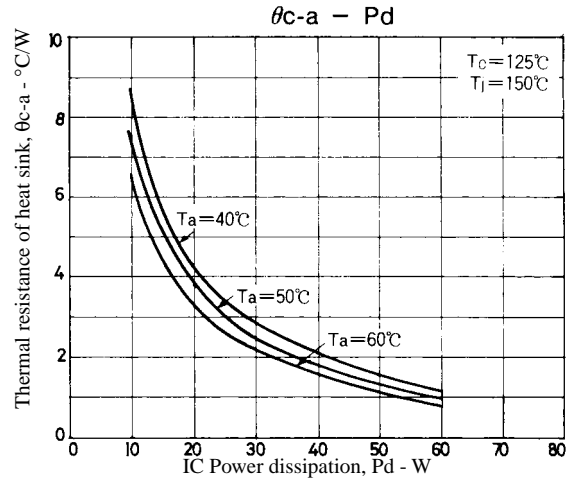

Figure 2. STK4432  $\theta_{c-a} - P_d$
Figure 2 shows the relation between  $P_d$  and  $\theta_{c-a}$  given from (1) and (3) with  $T_a$  as a parameter.
The thermal resistance of a heat sink is obtained from Figure 2.